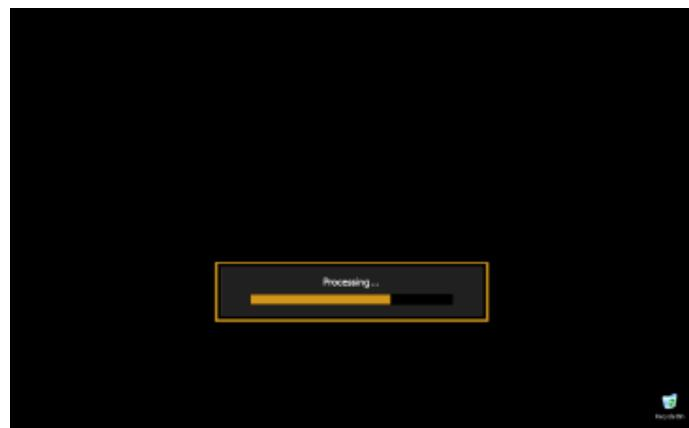

Figure 100
- After restart, the software updates the system; this operations could take some minutes please don't restart machine during this procedure (Figure 100).